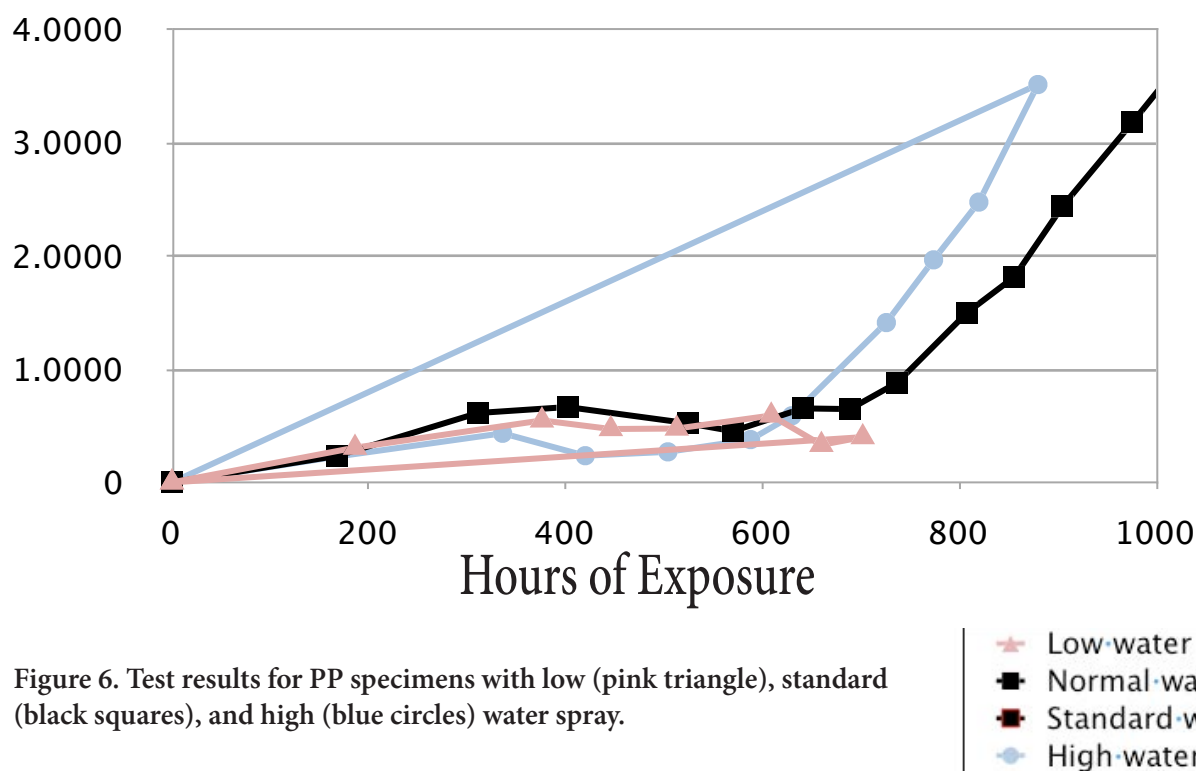

Figure 6. Test results for PP specimens with low (pink triangle), standard (black squares), and high (blue circles) water spray.
The graph in Figure 6 shows delta E (total color change) results obtained for black polypropylene (PP) specimens using a modified version of the “102/18” style ISO 4892-2 test protocol. Tests were conducted with three levels of water delivery – the standard volume of spray for the xenon arc tester, a reduced amount of water, and a higher-than-usual level of water spray, similar to that used for ASTM D7869. The test performed with the normal amount of water spray shows very little change through 600 hours of testing, after which a significant increase in color change can be observed. However, for tests conducted with reduced and no water spray, color change remains minimal for much longer. The test with reduced water spray does begin to show additional color change after 1200 hours or so of testing. These results are not surprising, since water can contribute to weathering degradation from color change in several ways. The additional water may serve to better wash reaction products away from specimen surfaces, exposing fresh surfaces for photo-oxidation to take place. The presence of water can also facilitate chemical reactions in solution and accelerate color change. Additionally, for some specimens, long periods of water might generate cracking, swelling, and other defects, but that was not observed in this work, perhaps owing to the choice of test protocol.